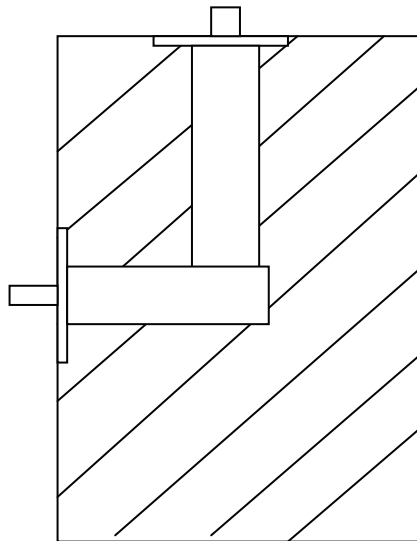

Figure 4
2. There are automatic flush bolt choices that do not require complete core removal at the door corner (SEE FIGURE 4). These bolts do not require the use of metal channels/astragals to maintain the integrity of the door corner. They allow the installation of the intumescent to be concealed in the door edge for positive pressure applications and negative pressure applications where the uses of metal channels/astragals are not desired.